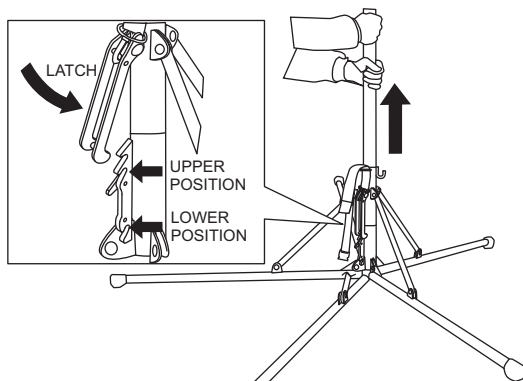

Figure 31. Unlocking the Latch
8. Lift mast while pulling up strap (Figure 31).